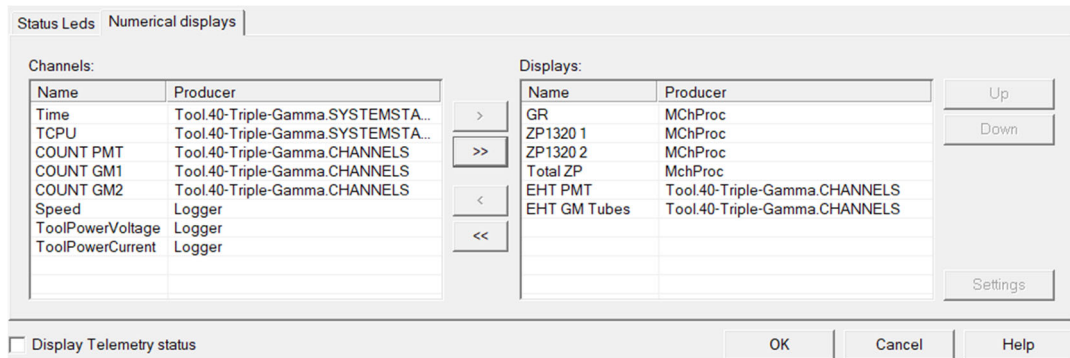

Figure 5-2: Display options in MChNum
3. Select the high voltage channel(s) (EHT) to be moved into MChNum browser by highlighting the desired channel and using the arrow key (>) to make the channel active (Figure 5-2).